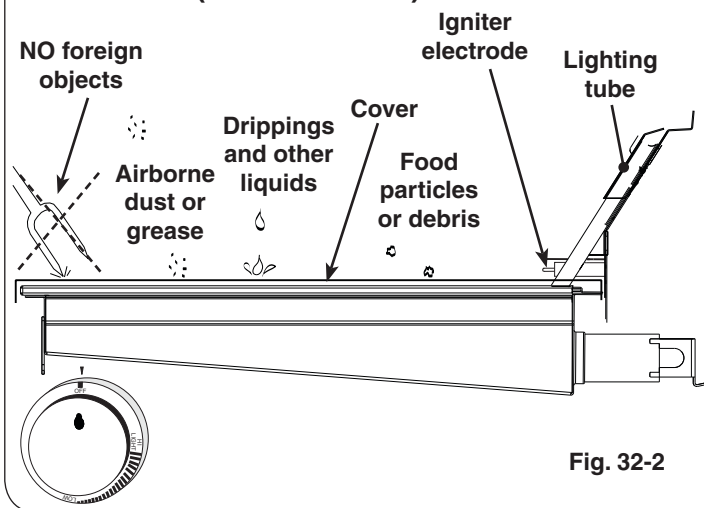

Fig. 32-2
- When not in use, **always** cover the infrared burner with the stainless-steel cover. This protects the burner from drippings (from other cooking), water, airborne particles, and foreign objects (Fig. 32-2).
- Do not strike or scrape the ceramic portion of the burner as it may chip, crack, or break (Fig. 32-2).